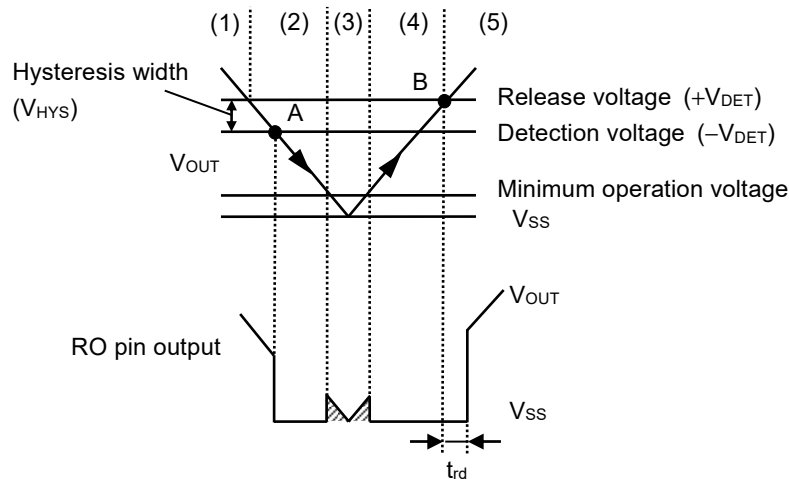

Figure 40 Timing Chart of Detector Block
- (1) When the output voltage (V_{OUT}) of the regulator is release voltage ($+V_{DET}$) of the detector or higher, the Nch transistor (N1 and N2) are turned off and "H" is output to the RO pin. Since the Pch transistor (P1) is turned on, the input voltage to the comparator (C1) is $\frac{R_B \cdot V_{OUT}}{R_A + R_B}$.
- (2) Even if V_{OUT} decreases to $+V_{DET}$ or lower, "H" is output to the RO pin when V_{OUT} is the detection voltage ($-V_{DET}$) or higher. When V_{OUT} decreases to $-V_{DET}$ (point A in **Figure 40**) or lower, N1 which is controlled by C1 is turned on, and C_{DLY} is discharged. At the same time, N2, which is controlled by the delay circuit, is turned on, and "L" is output to the RO pin. At this time, P1 is turned off, and the input voltage to C1 is $\frac{R_B \cdot V_{OUT}}{R_A + R_B + R_C}$.
- (3) If V_{OUT} further decreases to the IC's minimum operation voltage or lower, the RO pin output becomes uncertain. If the RO pin is pulled up, "H" is output.
- (4) When V_{OUT} increases to the IC's minimum operation voltage or higher, "L" is output to the RO pin. Moreover, even if V_{OUT} exceeds $-V_{DET}$, the output is "L" when V_{OUT} is lower than $+V_{DET}$.
- (5) When V_{OUT} increases to $+V_{DET}$ (point B in **Figure 40**) or higher, N1 is turned off and C_{DLY} is charged. When V_{DLY} increases to the threshold voltage (1.25 V typ.), N2, which is controlled by a delay circuit, is turned off and "H" is output to the RO pin.